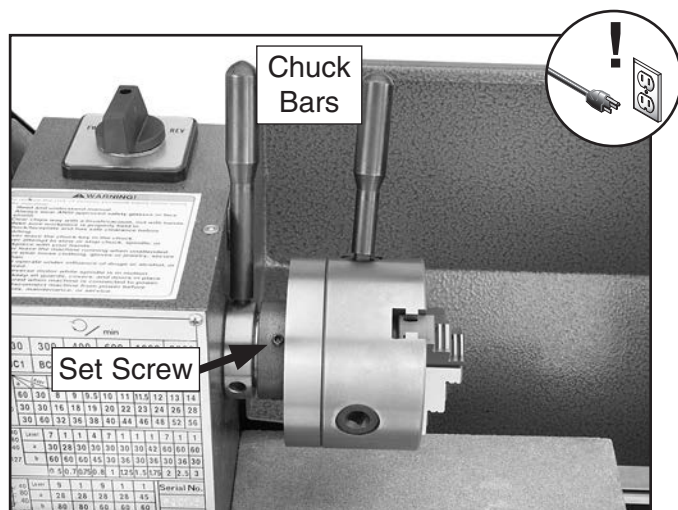

Figure 15. Chuck bar positioning.
3. Loosen both set screws, then insert one chuck bar into the spindle indent to hold the spindle still (see **Figure 15**).
Note: If removing a chuck, insert the remaining chuck bar into a scroll keyway, as shown in **Figure 15**.